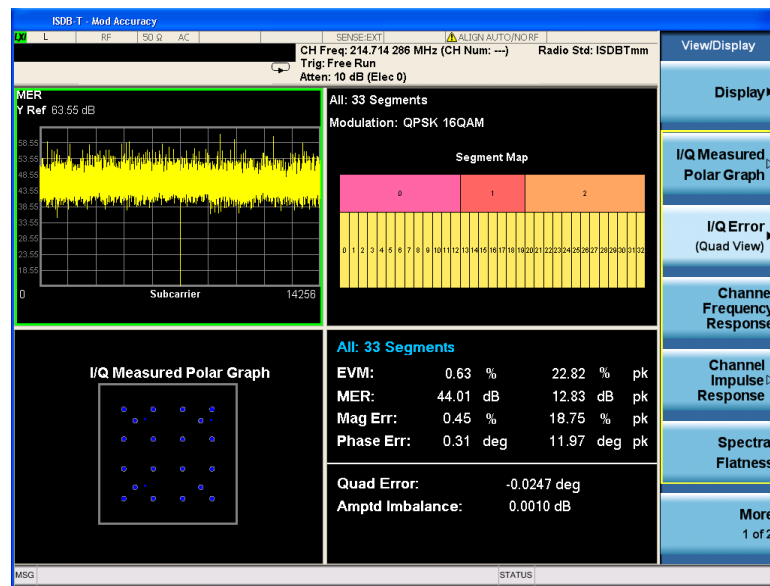

Figure 21. I/Q error (Quad View) view for ISDB-Tmm signals
View the I/Q error results (Figure 21)	[View/Display] {I/Q Error (Quad View)}
- **I/Q error (Quad View) view** (Figure 21): This is a four-window view which includes